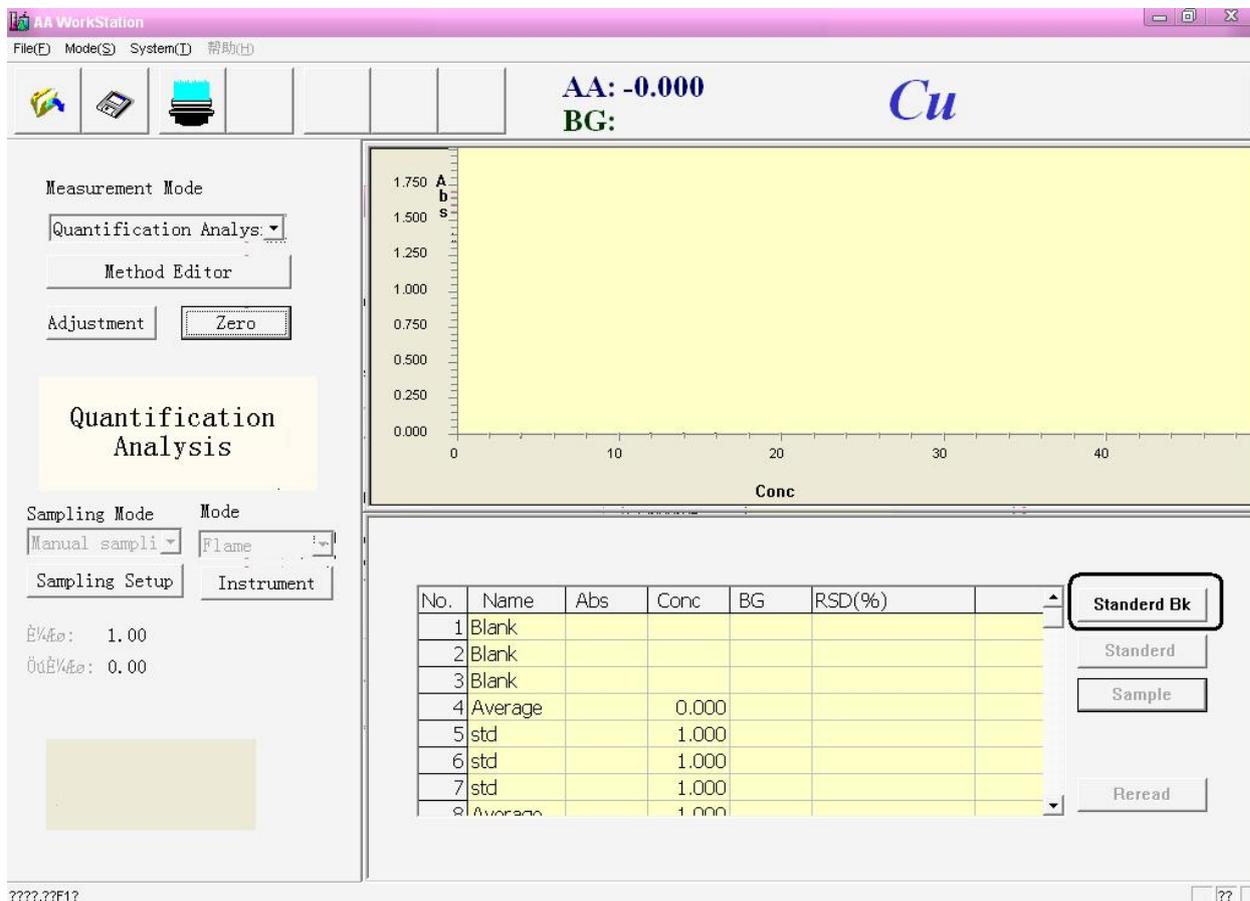

Figure 5-10
7. Press **【OK】**, close the dialog box, "Standard Bk" brighten. figure 5-10